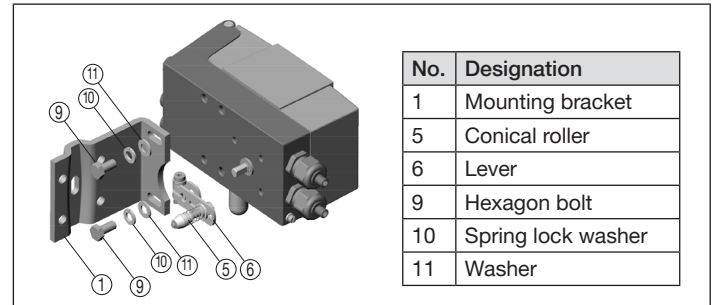

Fig. 13: Attaching the mounting bracket
→ Attach the mounting bracket ① to the rear of the SideControl Type 8635 using the hexagon bolts ⑨, the spring lock washers ⑩ and the washers ⑪ (see “Fig. 13”).